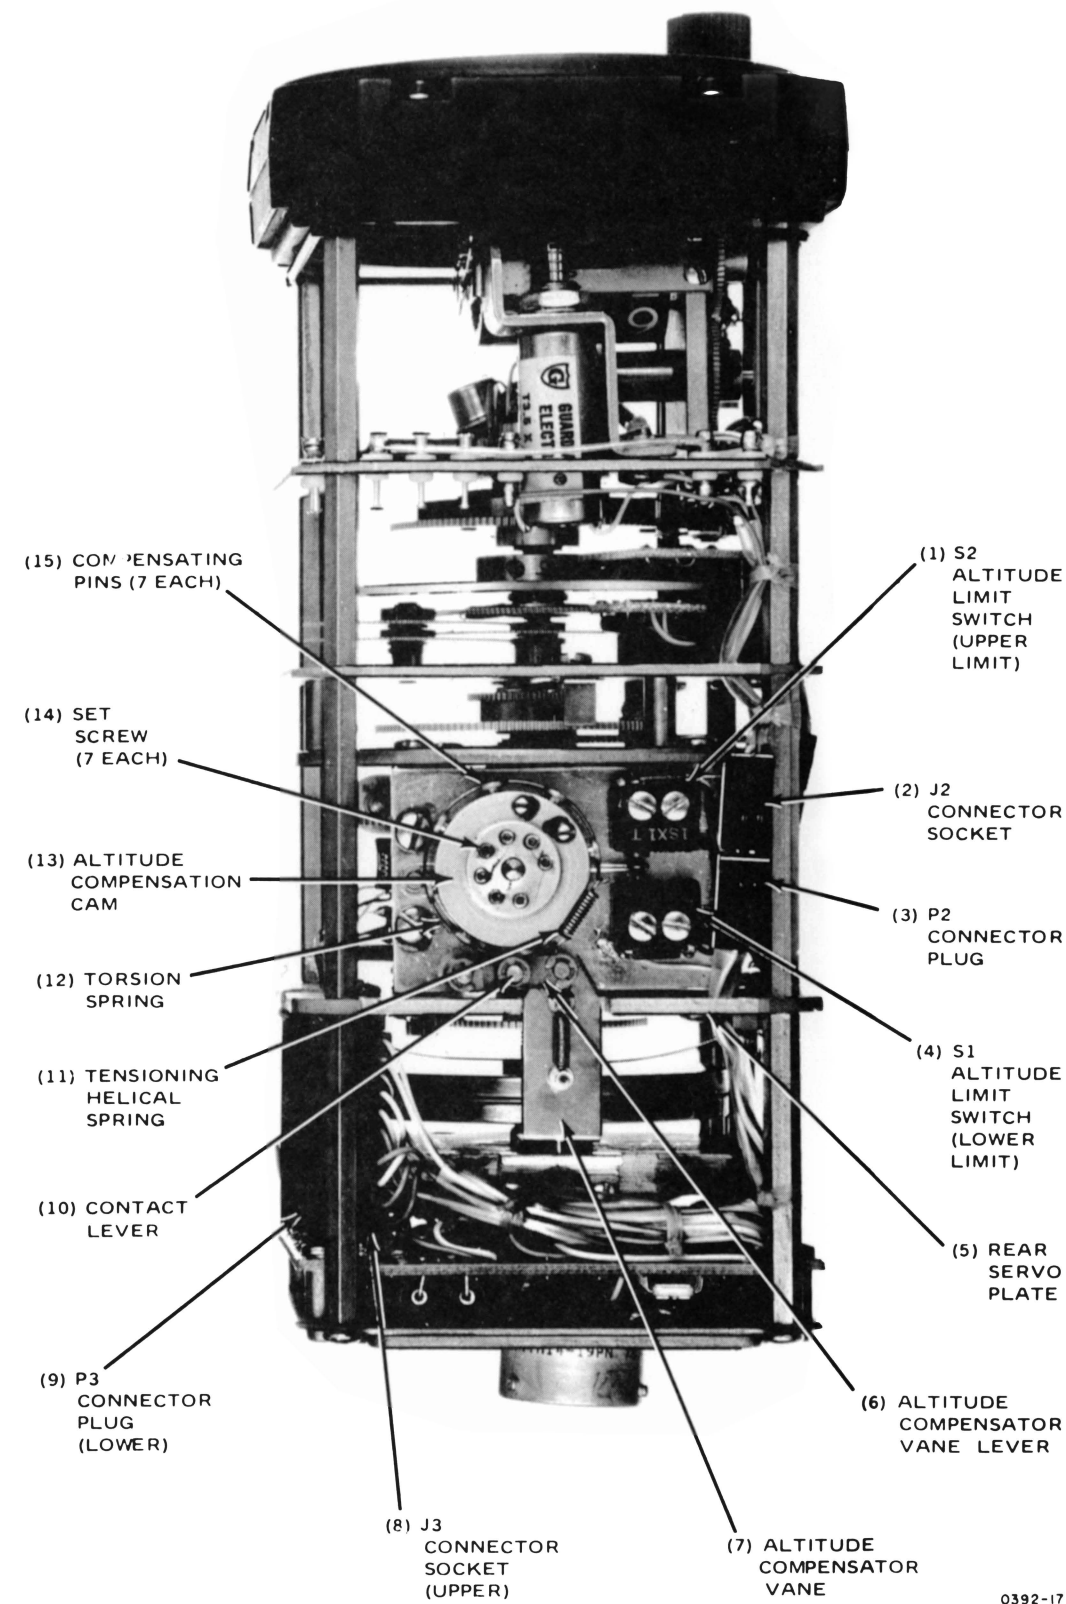

Figure 5-7. Encoding Altimeter, Top View
- Step 2. Disconnect connector plug P2 (3, figure 5-7).